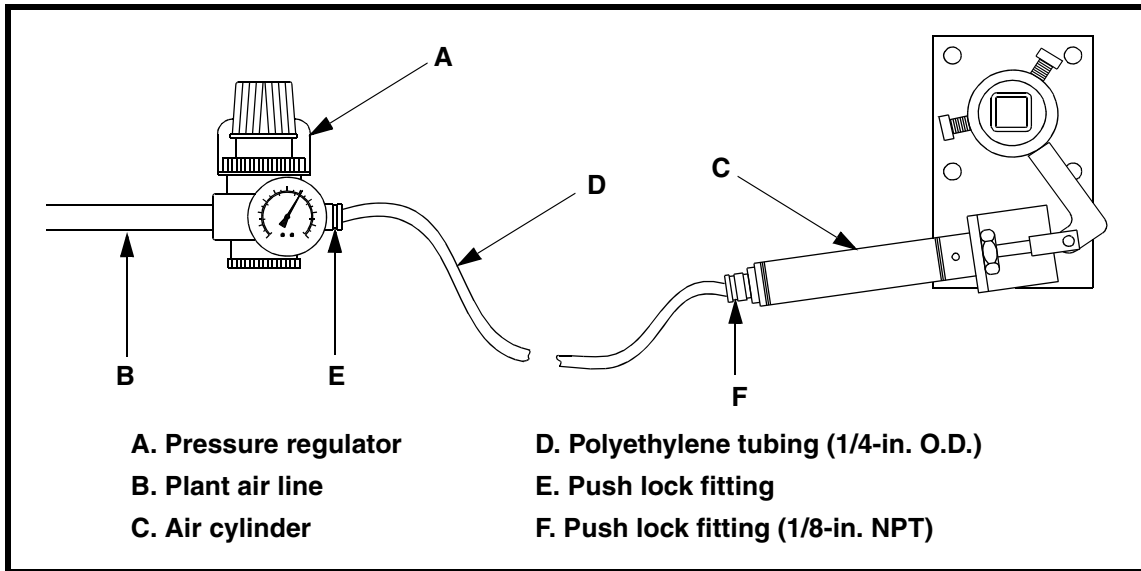

Figure 6. Pressure Regulator Installation
6. Install pressure regulator (A, Figure 6), as follows:
- a. Install pressure regulator onto your plant air line (B) as shown.
- b. Measure distance between pressure regulator (A) and air cylinder (C). Cut this length of polyethylene tubing (D) plus enough slack for air cylinder to pivot freely.
- c. Push one end of polyethylene tubing (D) into push lock fitting (E) on regulator. Push the other end into push lock fitting (F) on air cylinder. (You should feel the tubing snap into the fittings.)